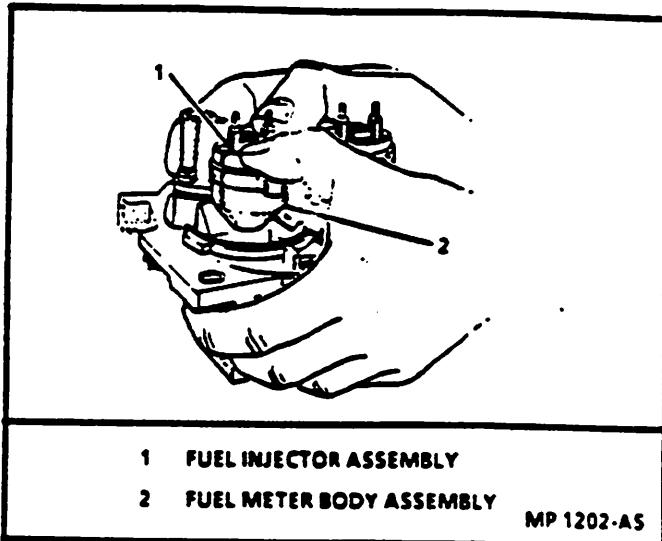

Figure 21 - Installing Fuel Injector
- Injector, aligning raised lug on each injector base with notch in fuel meter body cavity. Push down on injector until it is fully seated in fuel meter body (Figure 21). (Electrical terminals of injector should be parallel with throttle shaft.)